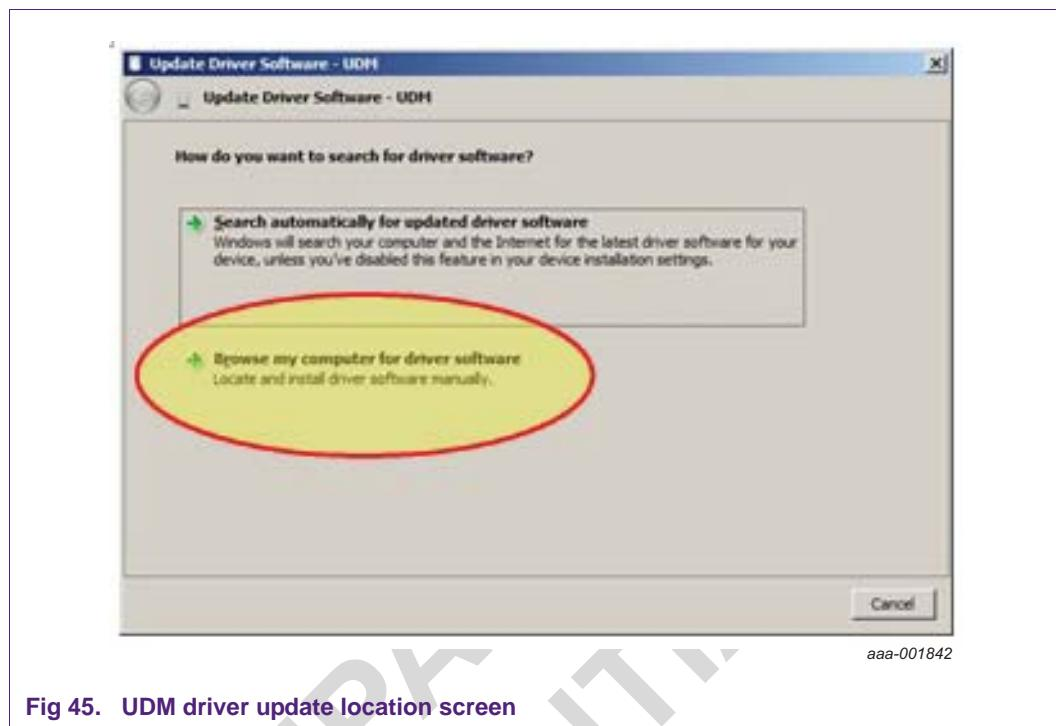
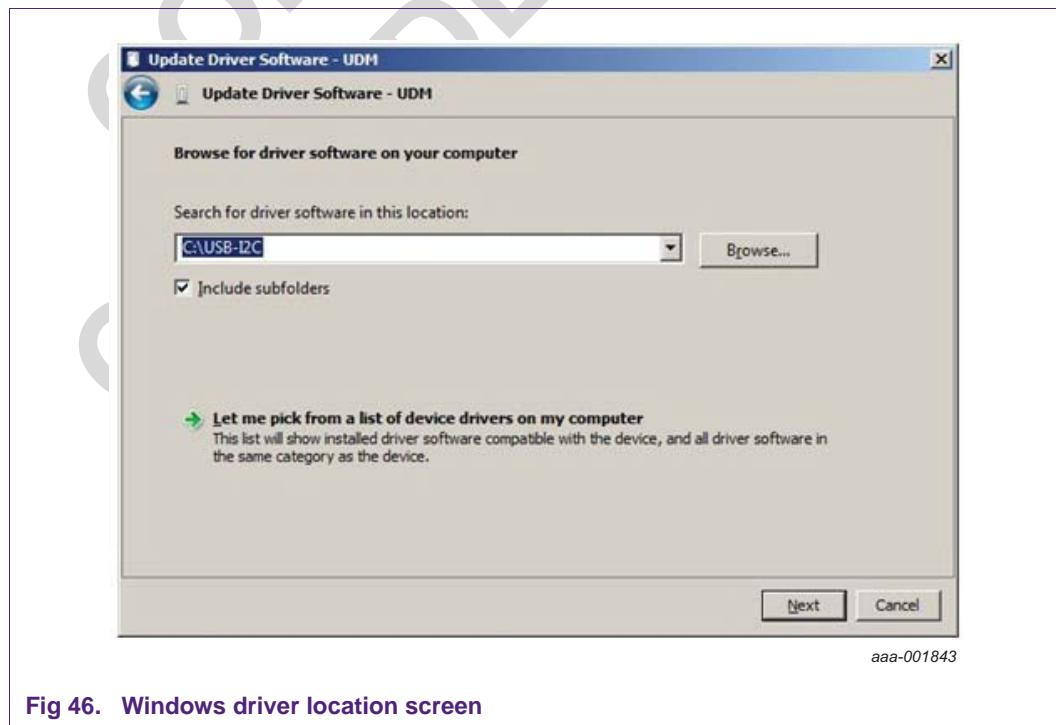

Fig 45. UDM driver update location screen
Fig 46. Windows driver location screen
- Click the “Update Driver” button to gain access the “Update Driver Software - UDM” screen (see Figure 45).
- Select "Browse my computer for driver software" (see Figure 45) to open the Windows driver location screen (see Figure 46).
- Enter the driver location in the "Browse" entry field (see Figure 46) and select "Next" to instigate the driver installation.